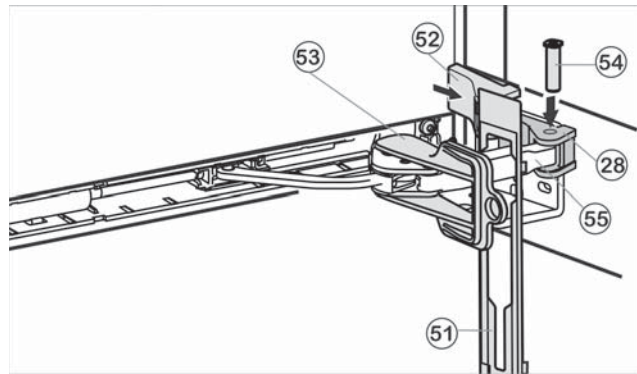

Fig. 24
- Hook panel Fig. 24 (51) into the damper bracket such that the detent hooks are pointing forward and the front side is facing the appliance.
- Pull damper bracket Fig. 24 (55) towards bearing part Fig. 24 (28) and insert bolt Fig. 24 (54) from above such that the square is resting in the recess.
- Place cover Fig. 24 (52) on top and snap into place.
- Remove locking device Fig. 24 (53) by twisting it.
- Snap panel Fig. 24 (51) into place on the door.